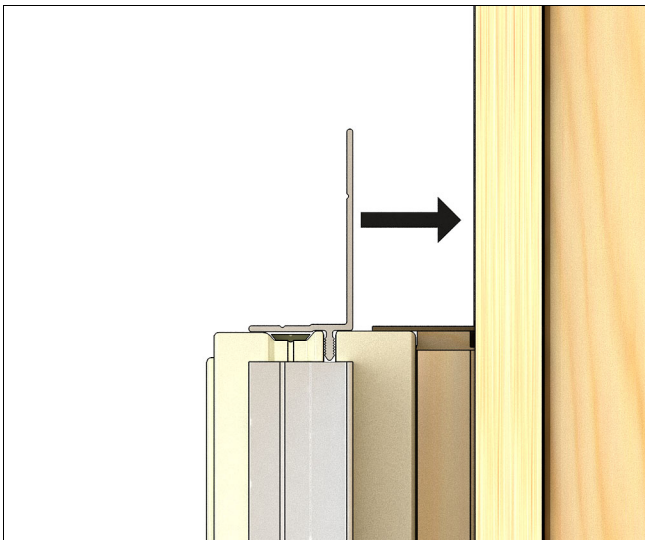

Figure 11
5. Position the factory applied nailing fin in the upright position. See Figure 11.